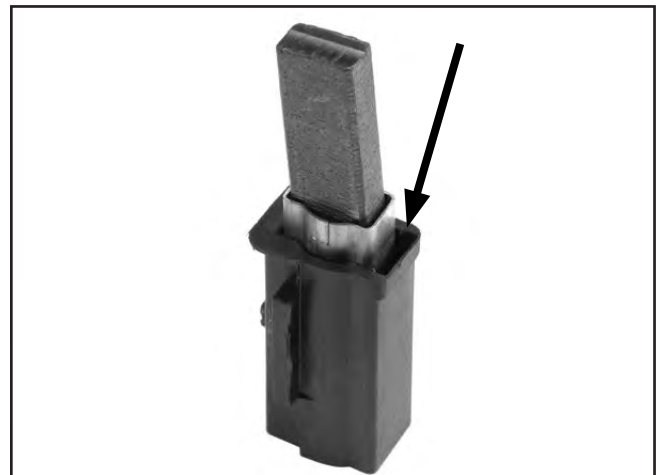

Figure 40. Brush power lead location.
- Insert the power wire spade terminal into the brush assembly between the brass sleeve and the housing (see **Figure 40**).